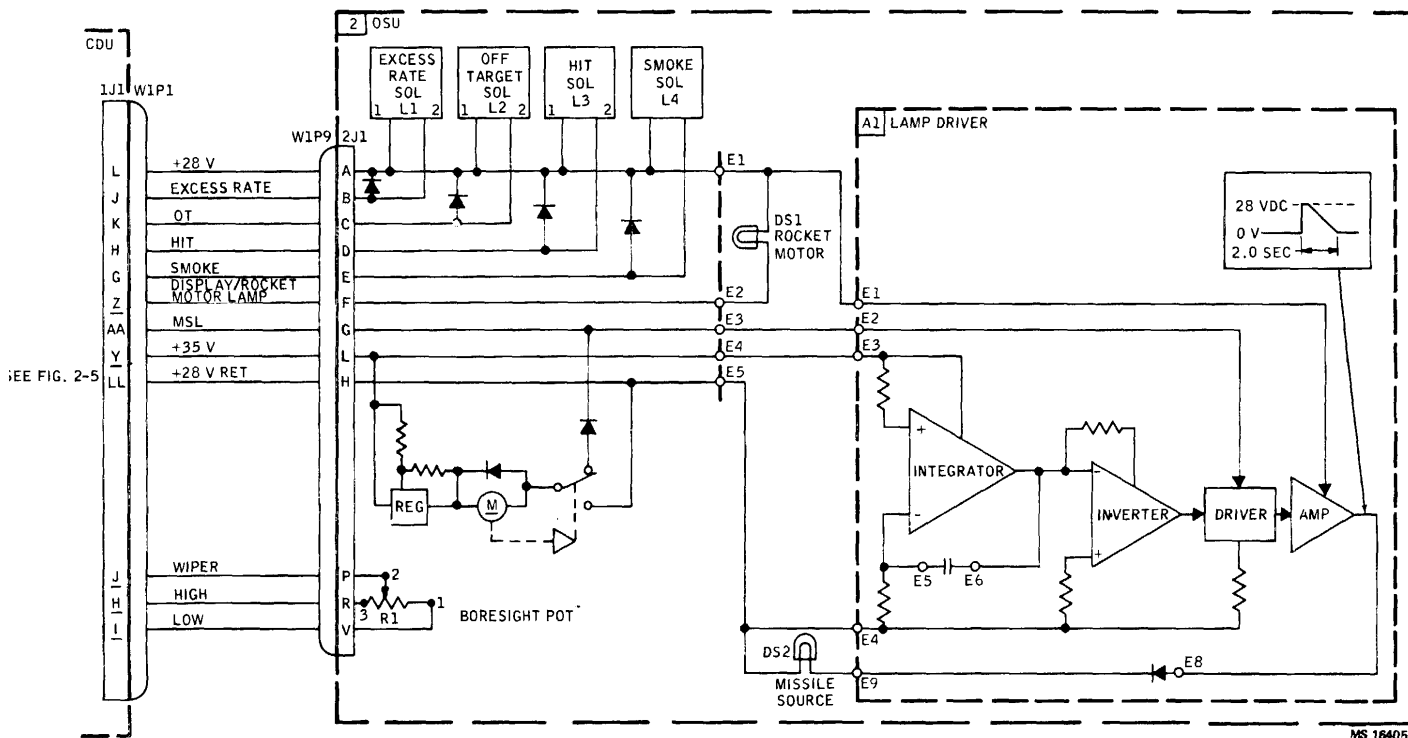

Figure 2-6. OSU Functional Diagram
(2) At 1.1 seconds, signals SCAVN (AI-6), SMSM, (AI-5) and MISS (A1-7) are generated from AI. Signal SCAVN is applied (A6-69) to a switch in tone signal generator A6, which allows the passage of scavenge noise output to amplifier AR5 and then to the intercom system. This simulates the sound of firing and scavenge system at launch. Signal SMSM energizes relay driver Q4, and a ground level is applied to the VES for smoke solenoid L4A (fig. 2-6). Solenoid IA causes a translucent sheet (fig. 2-7) to be placed in the gunner's field of view for 1.5 seconds, simulating launch obscuration caused by rocket motor smoke. At the same time, signal MISS (fig. 2-5) appears at A1-7. This signal enables relay driver Q5, which then sends an operate signal to lamp driver 2AI (pin E2) in the VES (fig. 2.6). This pulse enables the driver which generates a 28 volt decreasing ramp pulse with a 2 second duration to missile source lamp DS2. The signal is also applied to motor M1 in the VES which rotates two cams connected to a mirror in the optical portion of the OSU (fig. 2-7). Lamp DS2 then simulates the 2 second rocket motor burn. which decreases in luminance until 3.1 seconds have elapsed. At that time the lamp driver pulse runs out and DS2 extinguishes. During the 2 second duration, the motion of the mirror causes the missile source to move at a predetermined rate in the telescopic field of view.